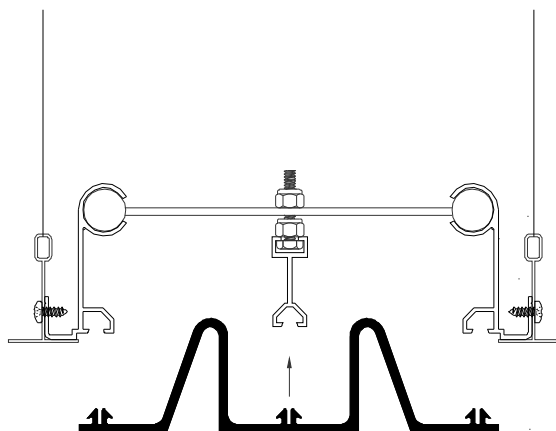

Figure 12
**STEP 23.** Attach the face seal to the subchannel by inserting the face seal's center arrow continuously into the subchannel's receiver (see Figure 12). For side by side seals, insert one of each face seal's arrows into one of the subchannel's receivers.